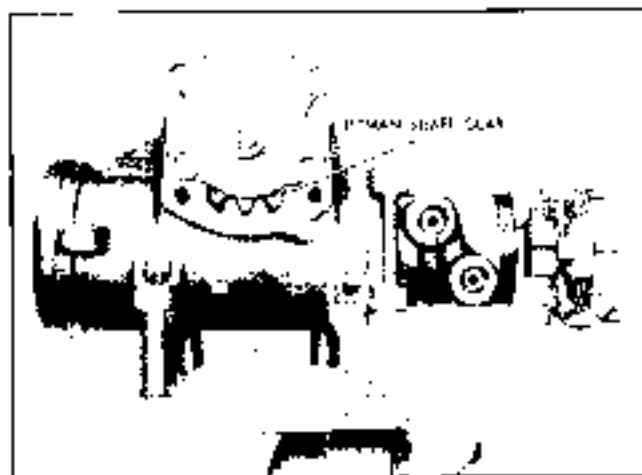

Fig. 9-49 Position of Pitman Shaft Gears for Removal
2. Rotate cover as necessary to see when pitman shaft is centered in gear housing opening while rotating gear flange (Fig. 9-49).